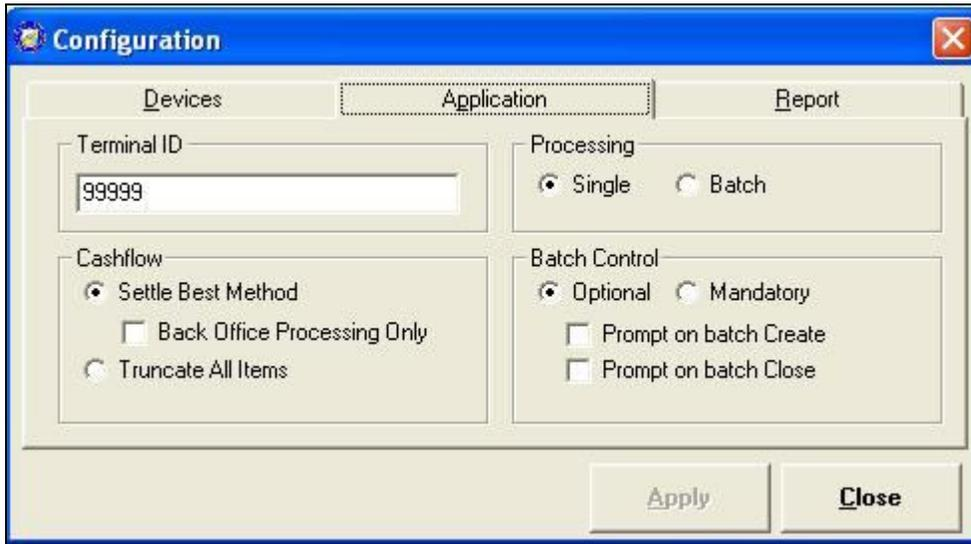

Figure 2.21
From the POS configuration window, click the 'Application' tab. This tab is used to set up preferences within the POS application (Figure 2.21).
The Terminal ID is provided by the Treasury OTC Support Center prior to installation and entered during the Installation process. It should not be changed, unless the PC is being used as a backup PC for batch recovery. The Terminal ID in Figure 2.21 is only an example. Refer to *Batch Recovery* in the *Troubleshooting* section for more information. To change the terminal ID, click in the field and type the terminal ID. Call the Treasury OTC Support Center at (866)945-7920, or 302-324-6442, or military DSN at 510-428-6824, option 4, option 5, option 4 or via email at FMS.OTCChannel@citi.com.